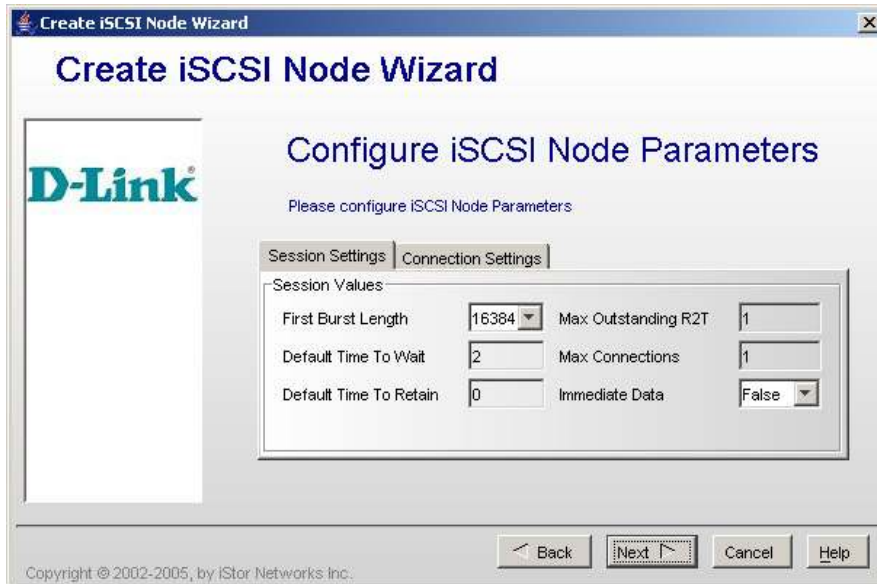
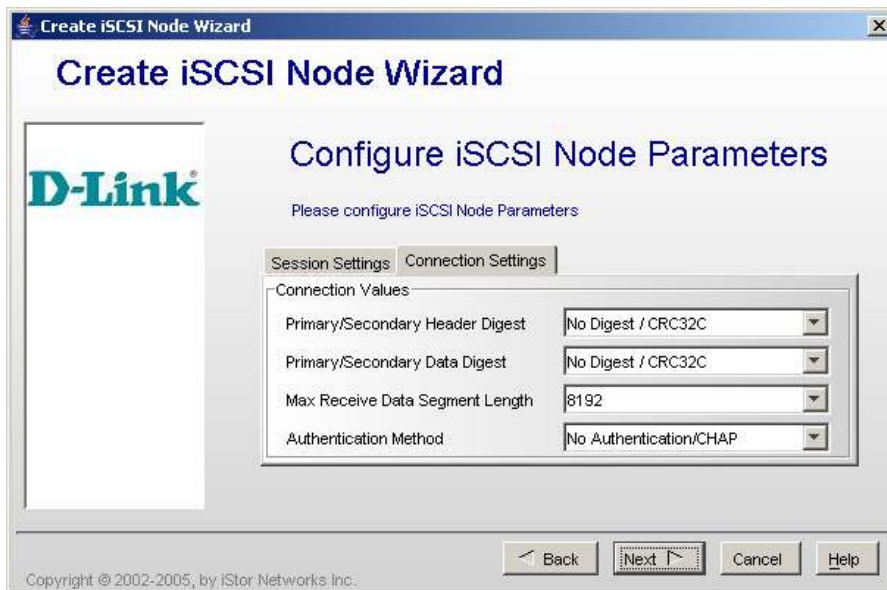

Figure 5-28. Create iSCSI Node Wizard - Configure iSCSI Node Parameters Screen (Session Settings Tab)
Figure 5-29. Create iSCSI Node Wizard - Configure iSCSI Node Parameters Screen (Connection Settings Tab)
4. Click **Next**. The Configure iSCSI Node Parameters screen appears (see Figure 5-28 and Figure 5-29).
5. Accept the default settings in the **Session Settings** (see Figure 5-28) and **Connection Settings** tabs (see Figure 5-29).